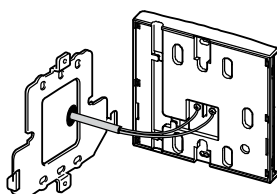
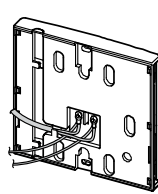

Fig. 3
Fig. 4
6. Connect the cable to the water controller as shown in Fig. 3. At this point cables from other controllers (if fitted) may also be connected to the screw terminals of the Kitchen water controller (Fig. 4) eliminating the need for multiple cable runs directly to the water heater. Water controllers are not polarity sensitive. Feed any excess cable lengths into the wall cavity to avoid the pinching of cables between the wall and the controller.